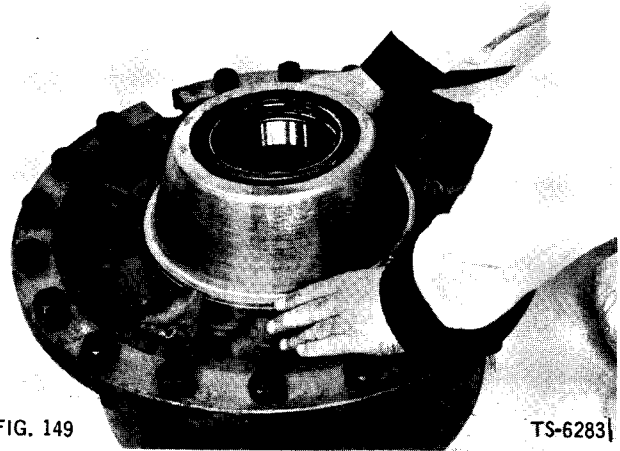

FIG. 149
5. Position oil catcher on hub (Fig. 149).